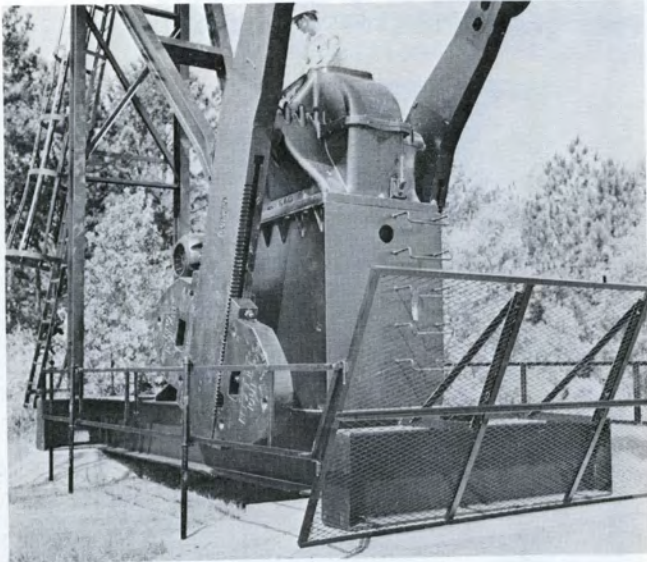

Figure 36
32. Figure 36 - Install Crank Guards
Schematic installation instructions are furnished for the crank guards. A typical rail type guard is shown in Figure 36. Install all brackets and clamps and tighten bolts according to the recommendations given under "Fasteners" in Section IX. All guards must be in place before operating the unit.